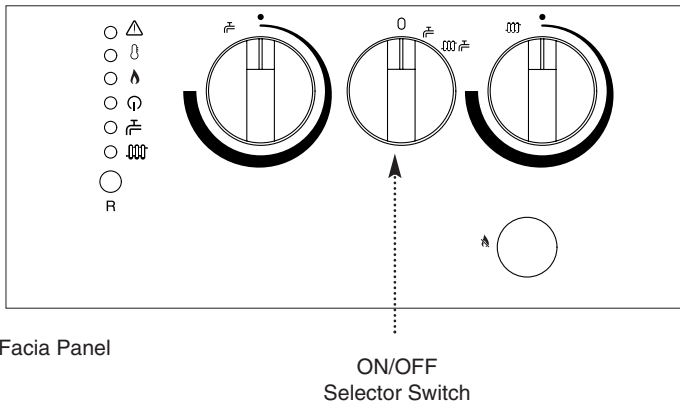

Fig. 1
1. Turn off the electrical supply and turn the selector switch on the fascia panel to the Off position (Fig.1).